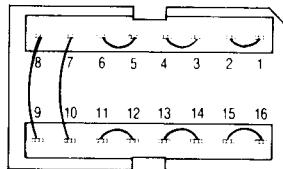

Figure 3-8
2. Remove the Configuration Header from board location 3A and replace it with a 16-pin header wired as shown in Figure 3-8.